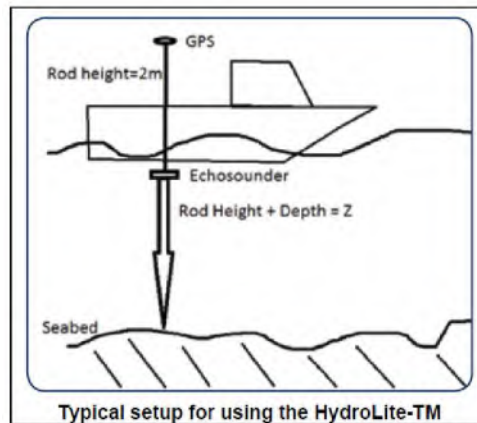

Figure 17: Measurements required for HydroLite-TM setup.
1. Measure draft from water surface to bottom of transducer with all people and equipment in boat (Figure 17).